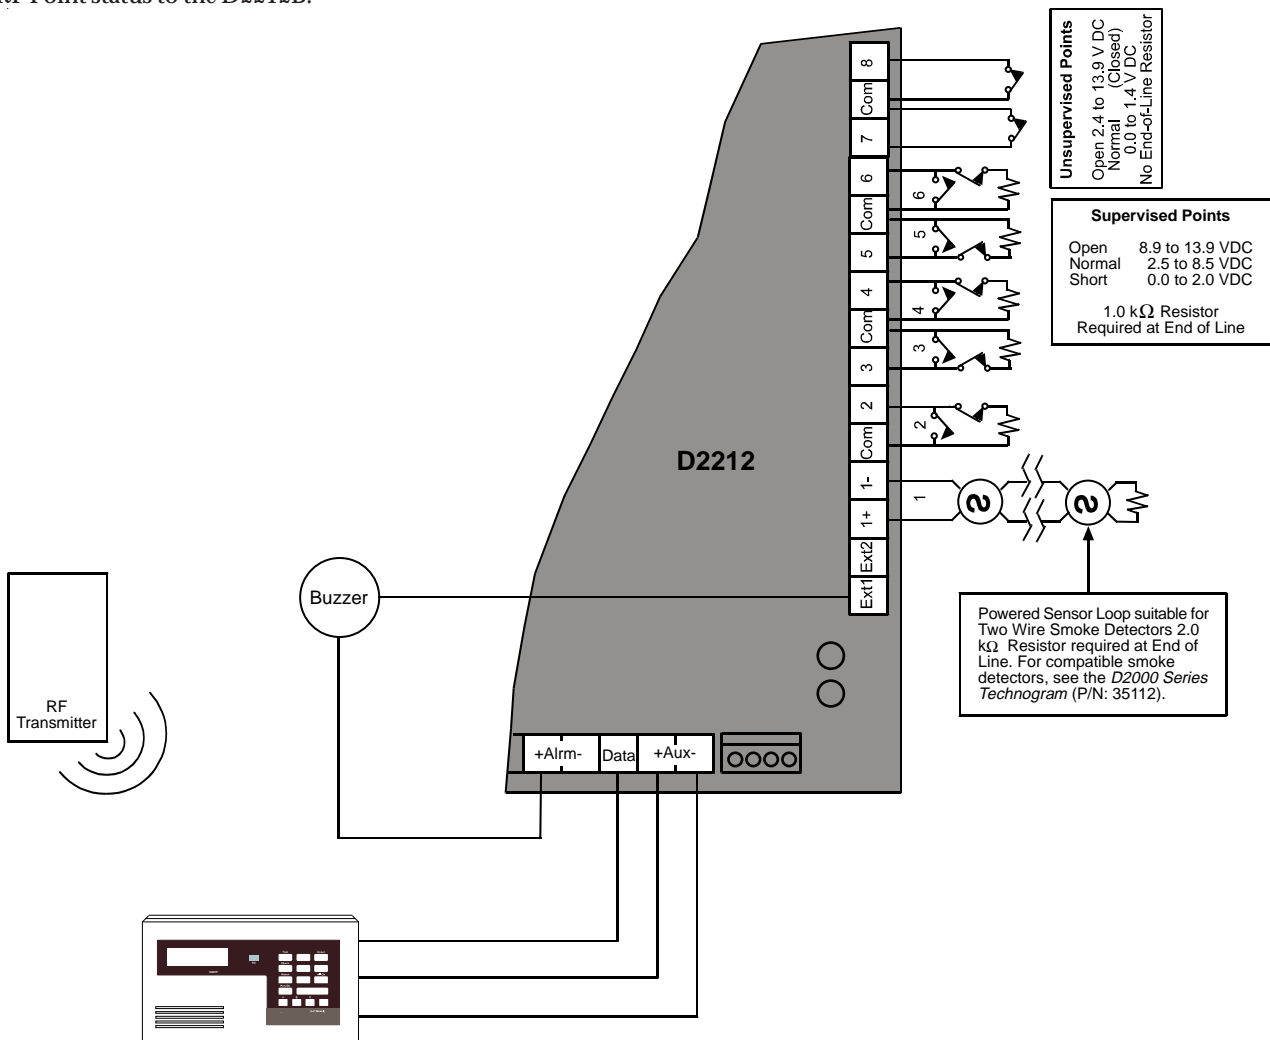

Figure 12: Points
Use a 2 k $\Omega$  EOL resistor for Point 1. See *Figure 12* on page 26 for point wiring.
Terminate each sensor loop with a 1.0 k $\Omega$  EOL resistor. See *Figure 12* on page 26 for point wiring.
**Burglary Devices:** Connect any number (limited by available power) of burglary devices to any point. Do not combine fire detection and burglary devices on the same point. For UL installations, wire a sounding device (such as a buzzer) to one of the external relays (terminals Ext1 and Ext2) and to terminal +Alrm (Alarm Output). See *Figure 12* on page 26. Program the relay for Function 3 to provide annunciation of troubles for all fire points (see *RELAYS Group* in the *D2000 Series Program Entry Guide* [P/N: 35114]).
The D2212 monitors sensor loops for Points 7 and 8 for normal (closed) and open conditions. Programming determines how the panel responds to these conditions. See the *D2000 Series Program Entry Guide* (P/N: 35114). *Figure 12* shows point wiring.